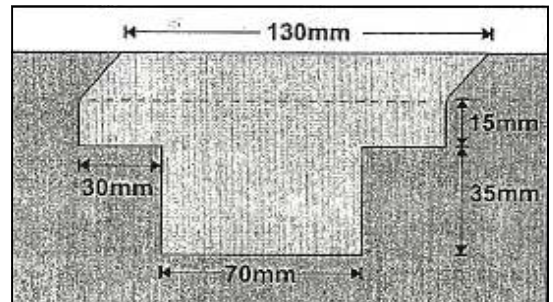

**Fig. 2E.** Final cut of Ute liner (RHS shown)
**2E.** Measured from the edge of the secondary cut, Mark a line 365mm backwards from the cut edge (see Fig. 2E).